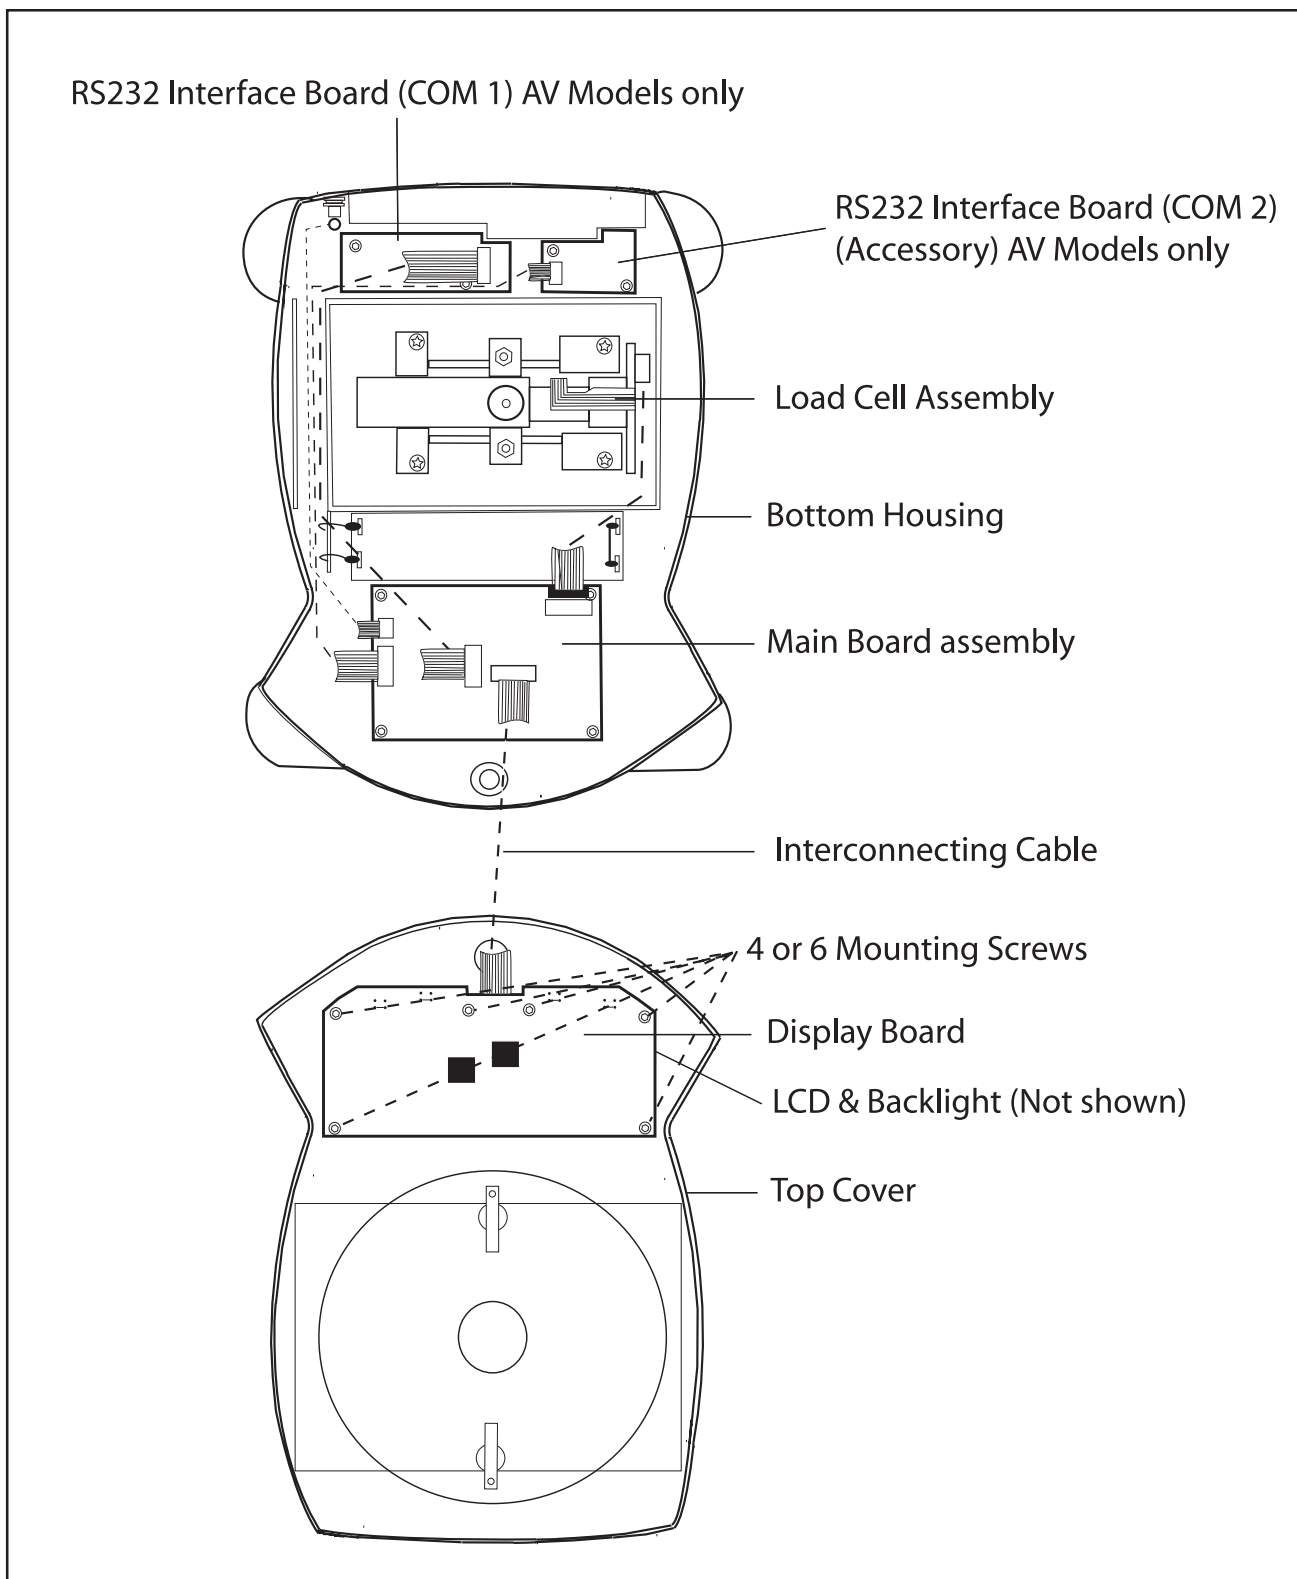

Figure 3-3. Balance Opened.
2. The Display Circuit Board is secured with 4 or 6 screws. Remove the screws. See Figure 3-3.